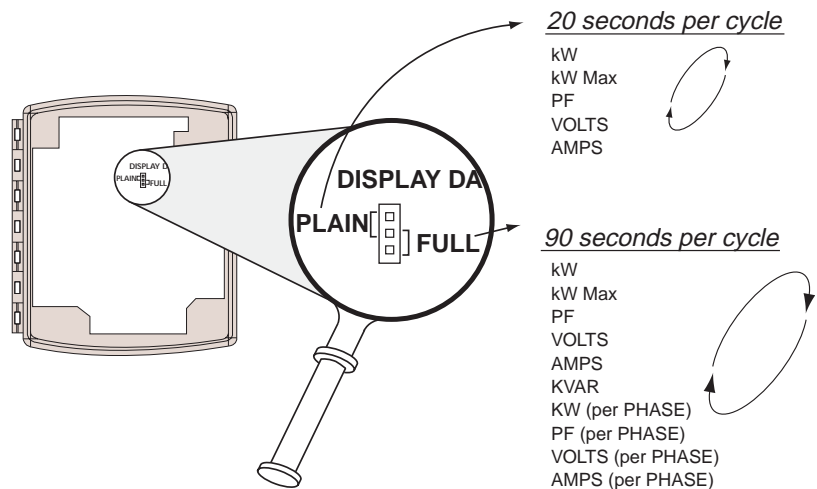

Figure 10: Setting the display data jumper
12. Set the display data jumper to select between the "Plain" and "Full" settings. The "Plain" mode displays WHRS and cycles through five data elements (kW, kW Max, average power factor, line-to-line voltage, and amps) for four seconds each. The "Full" mode displays WHRS and cycles through all of the data available from the meter (all the above, plus kVAR, and data on individual phases), as shown in Figure 10. When the COMMS board is installed, kW Demand is also displayed.